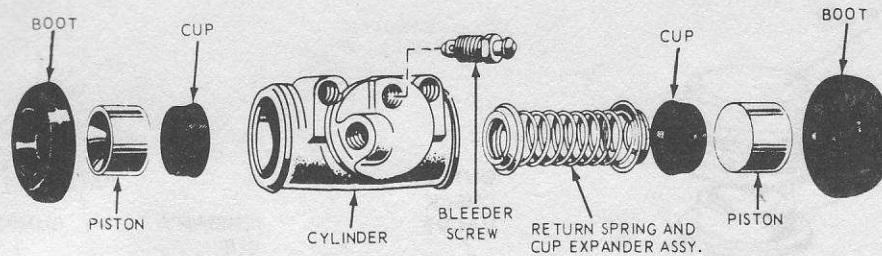

Fig. 9.13 Drum brake wheel cylinder components (Sec. 13)
- To dismantle the wheel cylinder, first remove the rubber boot from each end of the cylinder and push out the two pistons, cup seals and return spring (see Fig. 9.13).